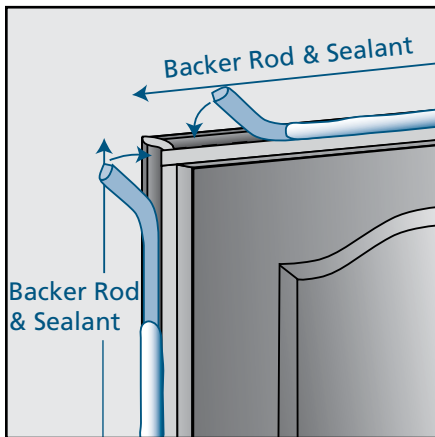

Fig. 31
3. On the exterior, apply a continuous sealant joint between the frame and the rough opening at the jambs and header using backer rod and sealant (**Fig. 31**).